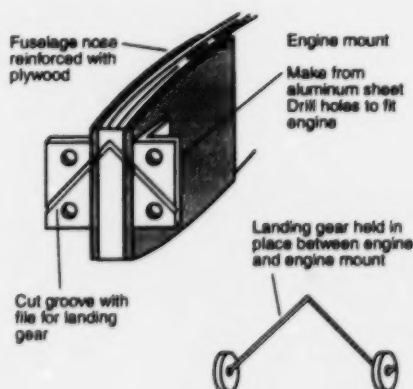

Figure 10 - Engine Mount
2. Locate the attachment location by referring to Fig. 10. It is the groove in the aluminum engine mount.